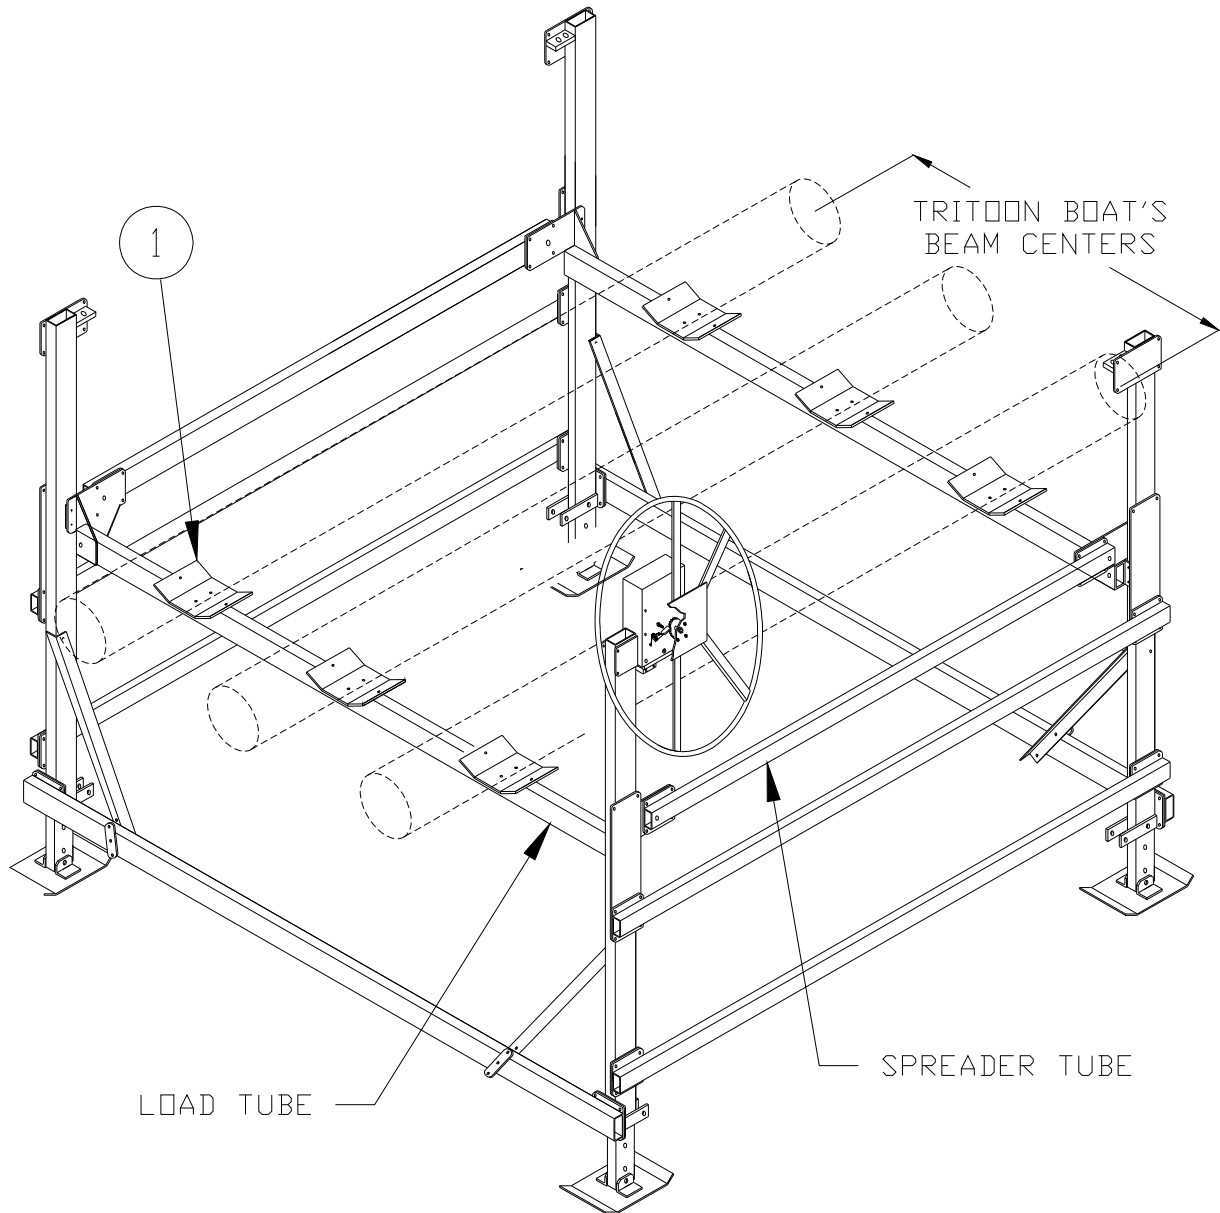

Figure 2-1.
1. **Refer to Figure 2-1.** Position the four-hole cradle mounting plates (1) face-up and centered on the load tubes. Measure the beam of your tritoon boat when locating the plates. Boat should remain centered on lift for best operation.